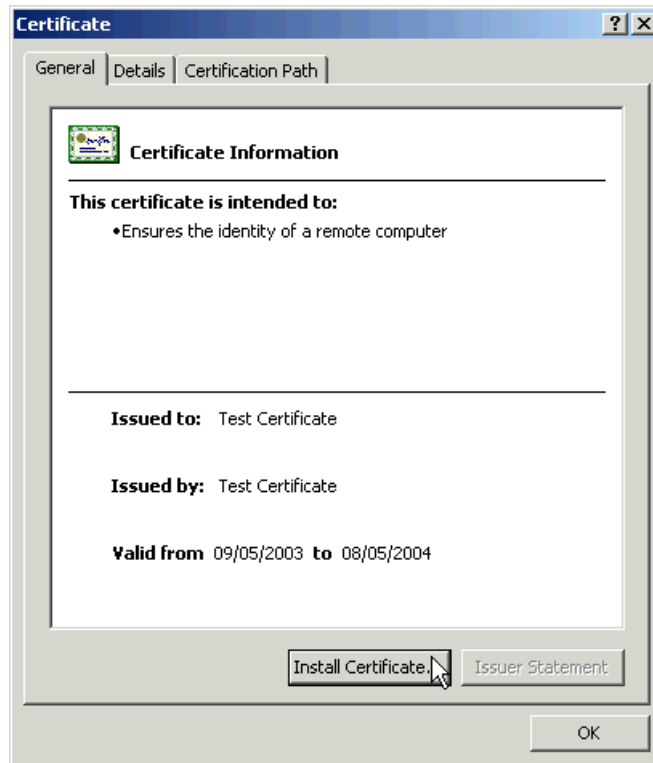

Figure 6-15 Certificate Information
- **View Certificate:** Clicking this option launches the Certificate window (Figure 6-15), from where you can install the certificate. If you do not want to be prompted repeatedly to accept or reject certificates, we recommend you choose this option.
2. The Certificate window (Figure 6-15) opens. Click **Install Certificate**.
7. You return to the Certificate Information window (Figure 6-15) you saw earlier. Click **OK**.